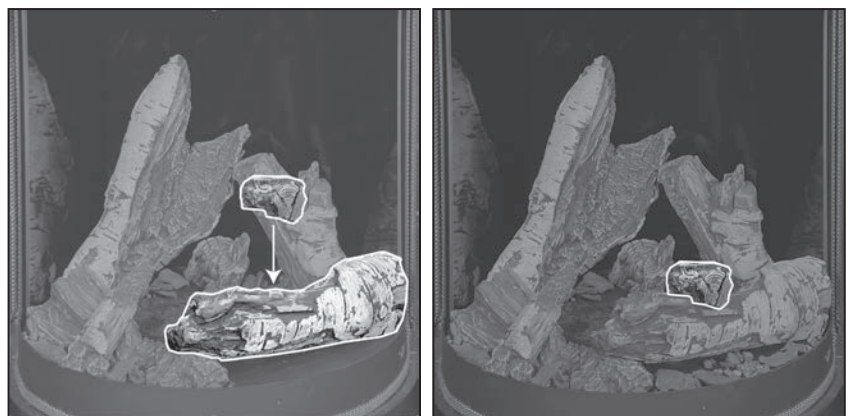

Figure 98: Step 8 - Log 8
STEP 8: Log 8 should notch onto Log 7 nicely. See Figure 98.